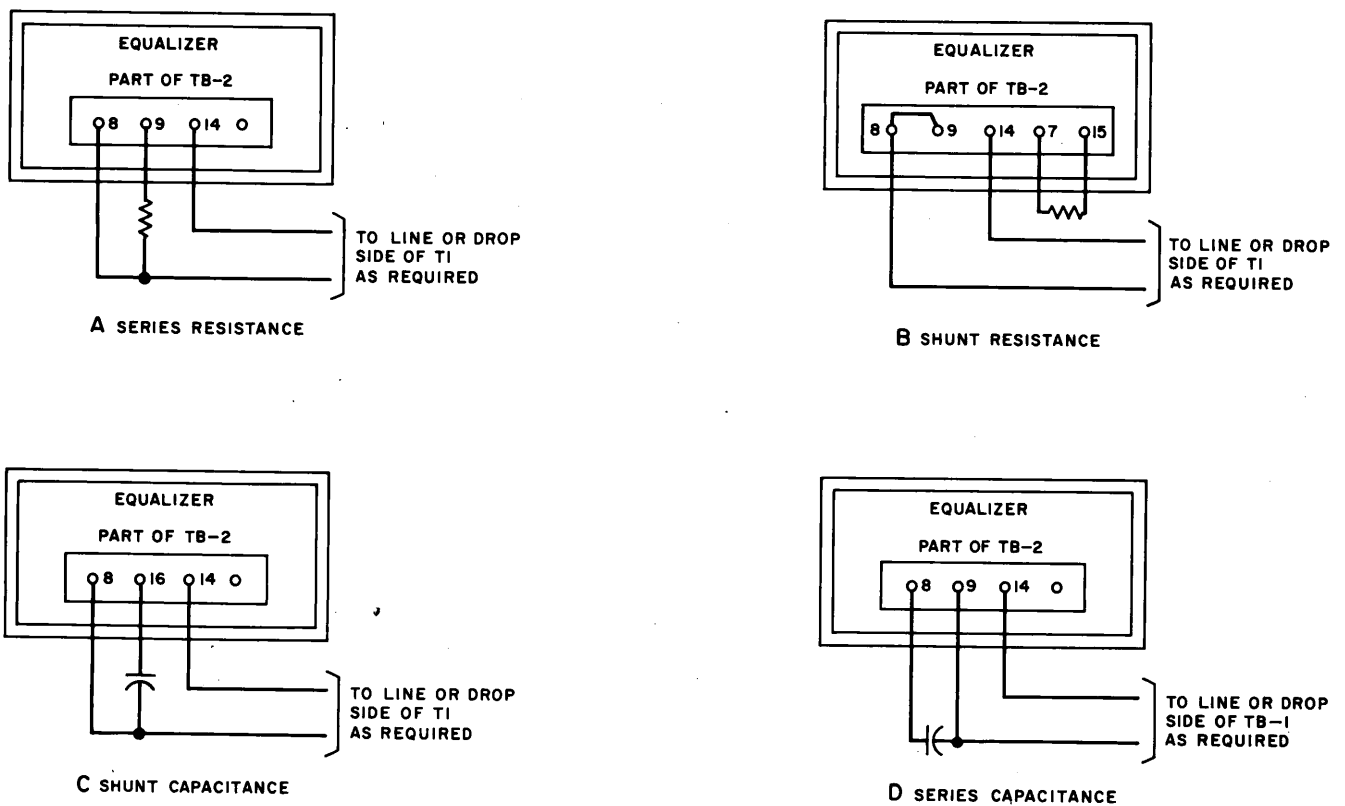

Fig. 4—External Component Connections
6.01 Normally the procedures in Charts 3 and 4 will yield very satisfactory equalization of unloaded line. In some cases, however, equalization may become difficult to achieve and may become especially difficult on long lengths of line made up of mixed gauges or when several equalizers are being used in tandem. For these more difficult cases, it may be necessary to use external resistors or capacitors to achieve satisfactory equalization. These components may be connected directly to the terminals provided on TB-2 as shown in Fig. 4. The values of these components are dependent upon the particular line being equalized and can only be determined experimentally. The explanations in the following paragraphs should prove useful in determining component values.